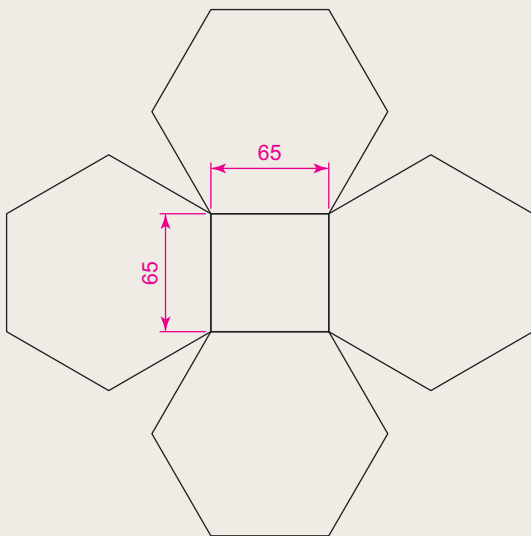

Fig. 3.50 Exercise 6
6. Fig. 3.50 shows a rectangle in the form of a square with hexagons along each edge. Using the **Dimensions** prompt of the **Rectangle** tool construct the square. Then, using the **Edge** prompt of the **Polygon** tool, add the four hexagons. Use the **Object Snap** endpoint to ensure the polygons are in their exact positions.